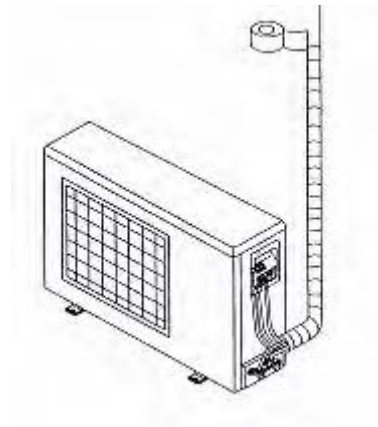

Fig. 3-1-9
- d) Wrap heat insulation tape from the bottom of outdoor unit until the upper end of the pipe is deep into the wall. When wrapping the heat insulation tape, please compress each circle to half of the previous circle, as shown in Fig. 3-1-9.